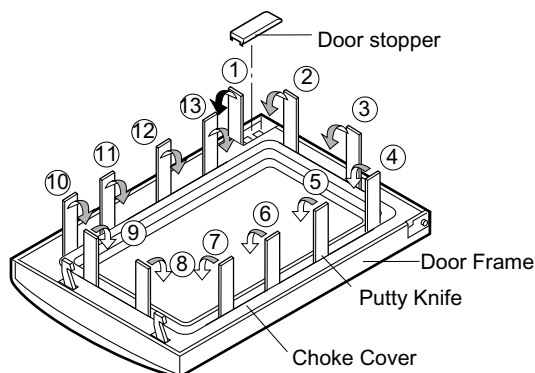

Figure C-4. Door Disassembly
3. Insert a putty knife (thickness of about 0.5mm) into the gap between the door stopper and the choke cover to free engaging parts as shown in Figure C-4.
6. Release two (2) pins of door panel from two (2) holes of upper and lower oven hinges by lifting up.
8. Insert a putty knife (thickness of about 0.5mm) into the gap between the choke cover and door frame as shown in Figure C-4 to free engaging parts.
9. Pry the choke cover by inserting a putty knife as shown Figure C-4.